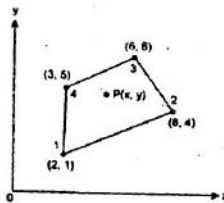

Fig 15(a)
15. (a) For the isoparametric quadrilateral element shown in Fig.15(a), the Cartesian coordinates of point 'P' are (6,4). The loads 10 kN and 12 kN are acting in x and y direction on that point P. Evaluate the nodal forces. (16)